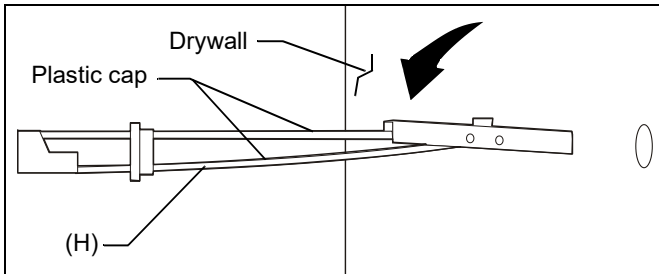

Figure 8
1. Hold metal channel on snaptoggle (H) flat alongside plastic straps and slide channel through hole. (See Figure 8)